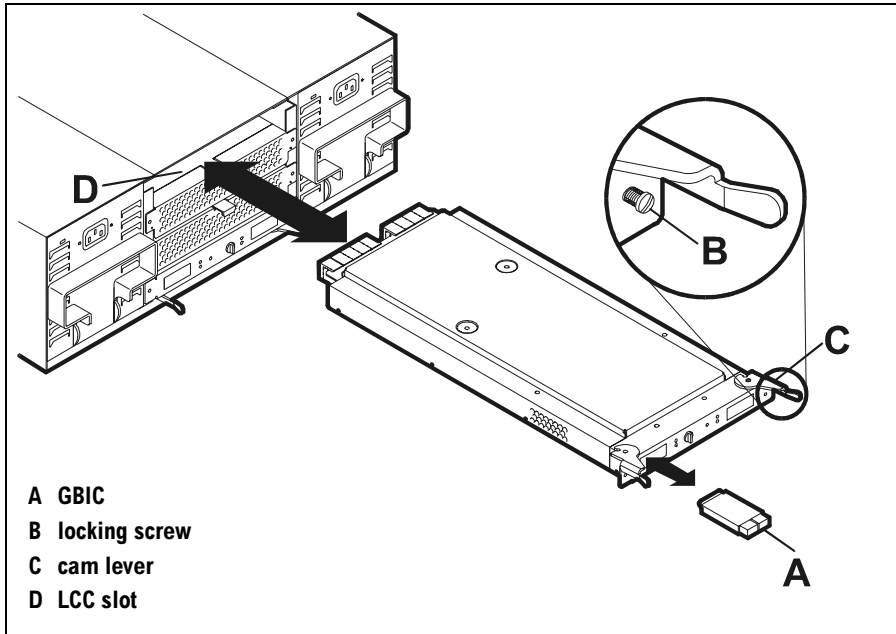

Figure 45 LCC Removal and Replacement
2. Remove cables and GBICs (A in Figure 45) from the failed LCC (see page 118).
8. Open the cam levers (see Figure 45) by pulling them away from the center of the card.
12. Tighten the locking screws (B in Figure 45).